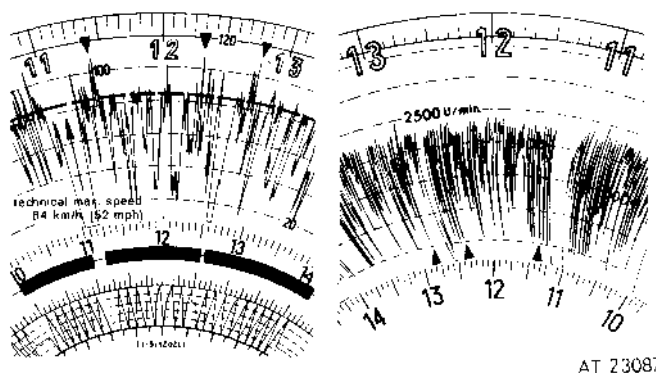

Figure 2-285. Gear disengaged.
(4) *Driving without gear engaged.* This can be recognized from the fact that individual speed peaks extend above the maximum speed specified in operating instructions for the vehicle. At the same time the rpm diagram shows engine idling. If the engine were coupled to the wheels, rpm would increase with speed of travel (fig. 2-285).